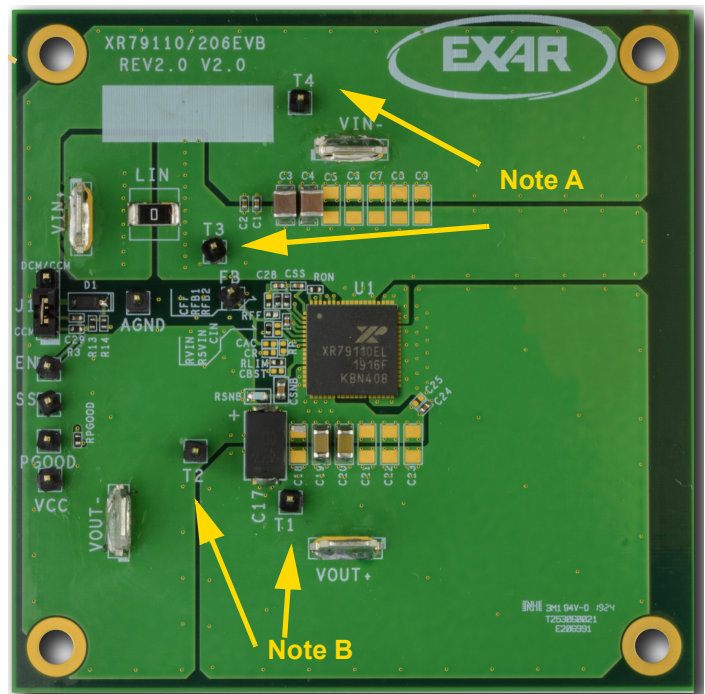

Figure 1: Monitoring V_{IN} and V_{OUT}
2. Connect a turned-off power supply that is within the V_{IN} specification (4.5V to 22V, 12V typical) to V_{IN+} and V_{IN-} with short / thick leads. Use test pins T3 and T4 to monitor V_{IN+} and V_{IN-} respectively. See locations in Figure 1 Note A.
3. Initially set to 0A, connect an electronic load that will be no more than the maximum I_{OUT} (10A) to V_{OUT+} and V_{OUT-} with short / thick leads. Use test pins T1 and T2 to monitor V_{OUT+} and V_{OUT-} respectively. See locations in Figure 1 Note B.